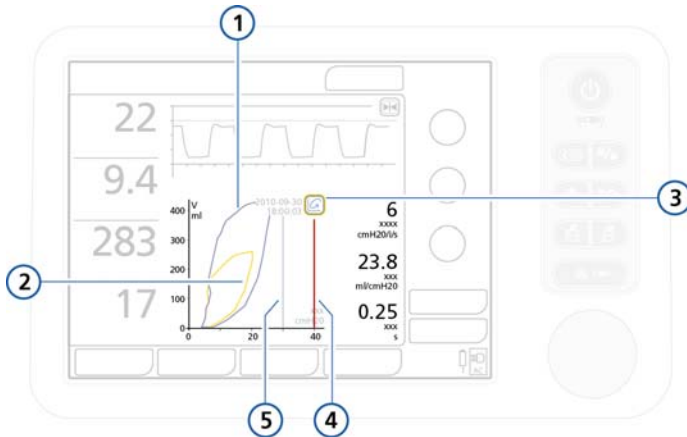

Figure 6-11. Loop display
- The selected combination is displayed (Figure 6-11).
In the Loop display (Figure 6-11), touch the **Loop reference** button (Figure 6-11) to store the loop curve with the current date and time. The past and current characteristics are shown.